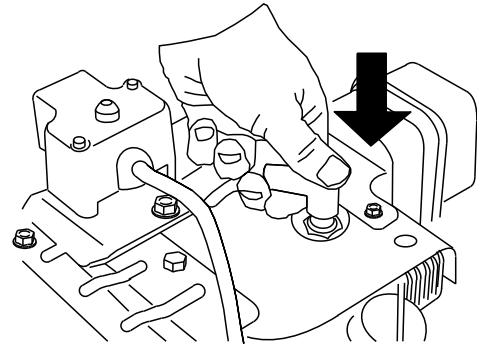

Figure 20
1. Connect the spark plug wire (Figure 20).